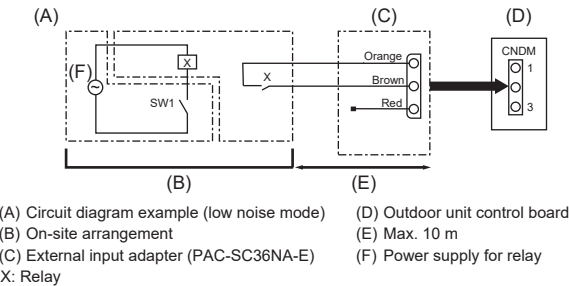

Fig. 8-1
8.1. Low noise mode (on-site modification) (Fig. 8-1)